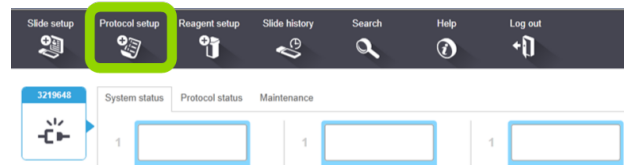

Figure 32: Protocol setup icon
1. Click the **Protocol setup** icon (see Figure 32).